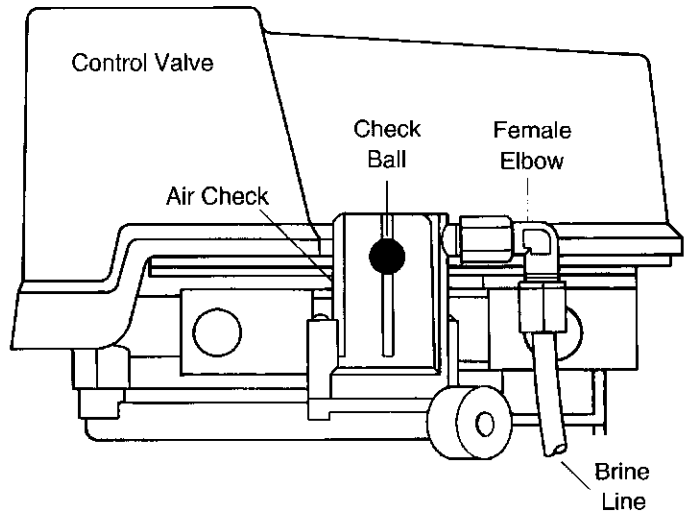

Figure 7
- B. Carefully advance pointer knob **COUNTERCLOCKWISE** to center of **BRINE REFILL** position and hold there until air check (Figure 7) fills with water and water starts to flow through brine line into brine tank. Do not run for more than 1 or 2 minutes.